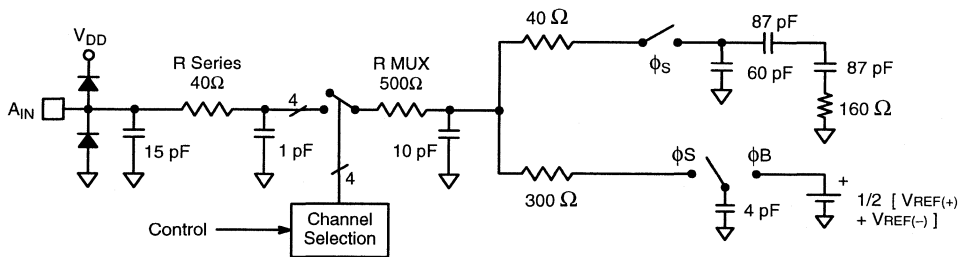

Figure 9. Analog Input Equivalent Circuit
- See V_{IN} input equivalent circuit (see Figure 9).
The MP8798's performance is optimized by using analog input circuitry that is capable of driving the A_{IN} input. Figure 9. shows the equivalent circuit for A_{IN} .